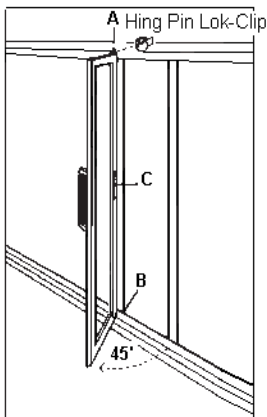

Figure 5
- Lift door into frame to engage top door hinge pin into top hinge mounting plate, Refer to Figure 5 \(A\).
- Reset door on bottom hinge (Refer to Figure 5 \(B\)) which allows finger clearance to plug in electrical cord. (Refer to Figure 6 \(C\)).
- Open door to approximately 45° to align bottom door pin with mounting hole in bottom plate (Refer to Figure 5 , B). Swing door open or closed to drop into proper alignment.
- Select Lok-Clip with proper thickness to fill space between top of door and outer frame. Refer to Figure 5 .